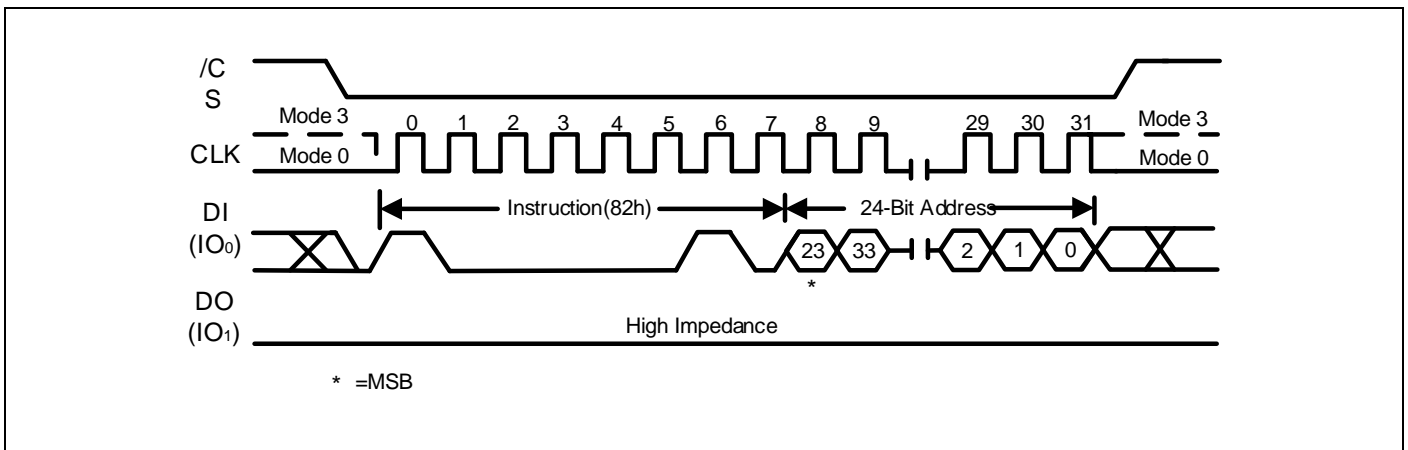

Figure15. Mini Sector Erase Sequence Diagram
The Mini Sector Erase command sequence: CS# goes low → sending Sector Erase command → 3-byte address on DI → CS# goes high. The command sequence is shown in Figure15. CS# must be driven high after the eighth bit of the last address byte has been latched in; otherwise the Mini Sector Erase (MSE) command is not executed. As soon as CS# is driven high, the self-timed Mini Sector Erase cycle (whose duration is  $t_{MSE}$ ) is initiated. While the Mini Sector Erase cycle is in progress, the Status Register may be read to check the value of the Write in Progress (BUSY) bit. The Write in Progress (BUSY) bit is 1 during the self-timed Mini Sector Erase cycle, and is 0 when it is completed. At some unspecified time before the cycle is completed, the Write Enable Latch (WEL) bit is reset. A Mini Sector Erase (MSE) command applied to a sector which is protected by the Block Protect (SEC, TB, BP2, BP1, and BP0) bit (see Table 1-6) is not executed.
The Sector Erase command sequence: CS# goes low → sending Sector Erase command → 3-byte address on DI → CS# goes high. The command sequence is shown in Figure15. CS# must be driven high after the eighth bit of the last address byte has been latched in; otherwise the Sector Erase (SE) command is not executed. As soon as CS# is driven high, the self-timed Sector Erase cycle (whose duration is tSE) is initiated. While the Sector Erase cycle is in progress, the Status Register may be read to check the value of the Write in Progress (BUSY) bit. The Write in Progress (BUSY) bit is 1 during the self-timed Sector Erase cycle, and is 0 when it is completed. At some unspecified time before the cycle is completed, the Write Enable Latch (WEL) bit is reset. A Sector Erase (SE) command applied to a sector which is protected by the Block Protect (SEC, TB, BP2, BP1, and BP0) bit (see Table 1-6) is not executed.